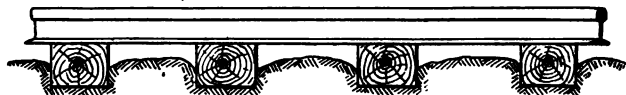

Fig. 8—Longitudinal Section of Track on New Grade After Being Used by Construction Trains.
**Preparation of Subgrade on New Track**—When trains run over a track on a level-topped grade before it is ballasted, the ties sink into the dirt several inches, the depth depending on the compactness of the soil, amount of moisture, etc. A longitudinal section would then look something like Fig. 8. Dirt should be leveled off to the bottom of the ties before ballast is applied to such a roadbed. One of two methods may be followed: The whole grade can be cut down to the bottom of the tie and the dirt thrown over the shoulder, or the track can be raised and the